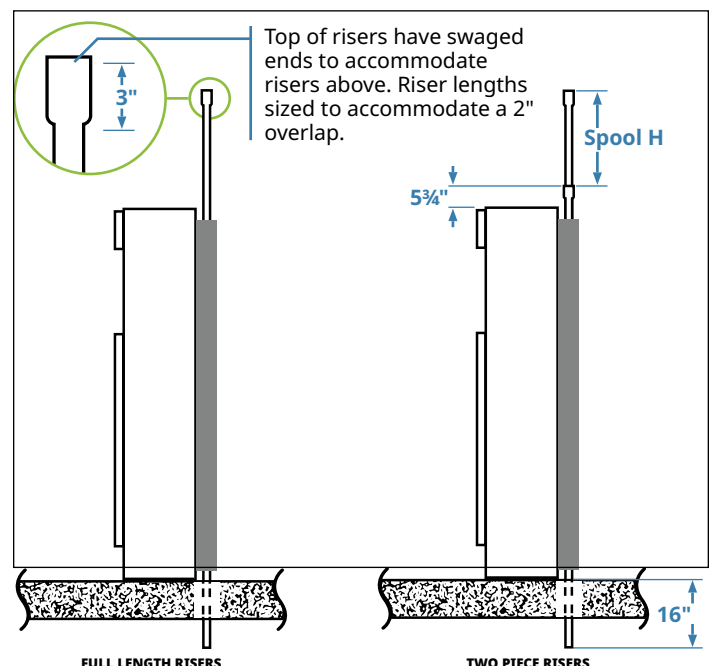
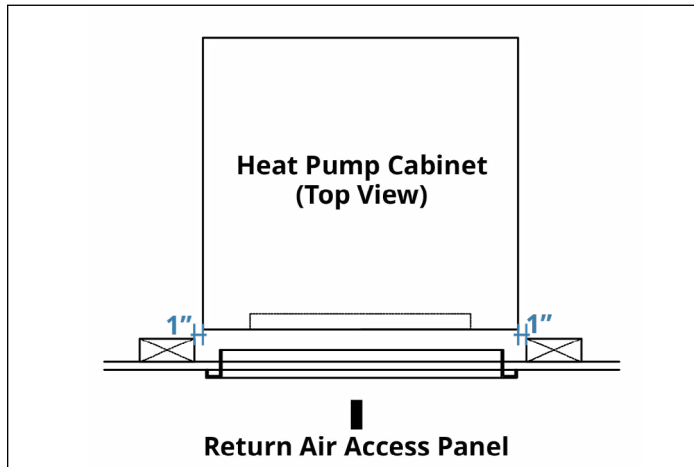

Figure 1
Figure 2
4. Check risers end 16" (406 mm) from the bottom of the cabinet. See **Figure 1**. If not; loosen cable tie, adjust the risers as needed, and re-tighten the straps. Ensure valve connections are centered to the height of the drywall opening. See **Figure 2**.
Note: Top of risers have swaged ends to accommodate a 2" (50 mm) overlap between floors. See *Figure 1*.
6. Ensure cabinet is centered to drywall opening with 1" (25 mm) of space to either side. See *Figure 2*.
16. Ensure cabinet is centered to drywall opening with 1" (25 mm) of space to either side. See *Figure 2*.
3. Center risers in slot. Ensure risers will end 16” (406 mm) from the bottom of the cabinet. Note: Top of risers have swaged ends to accommodate a 2” (50 mm) overlap between floors. See **Figure 1**.